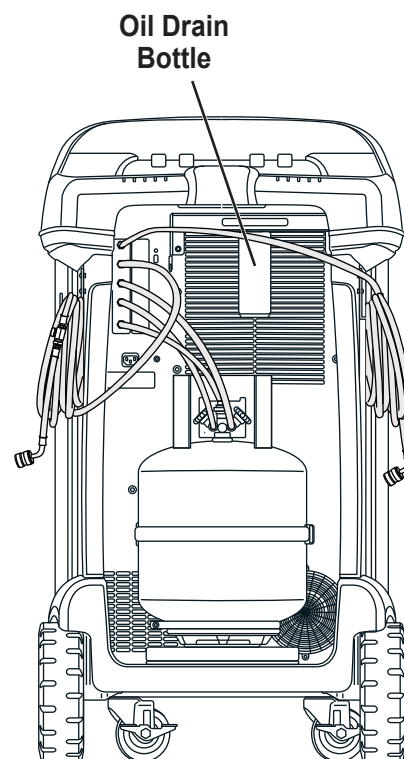

Figure 4
1. Empty the oil drain bottle before starting a recovery. Remove the oil drain bottle by unscrewing it from the unit. Reinstall the oil drain bottle. Refer to Figure 4.